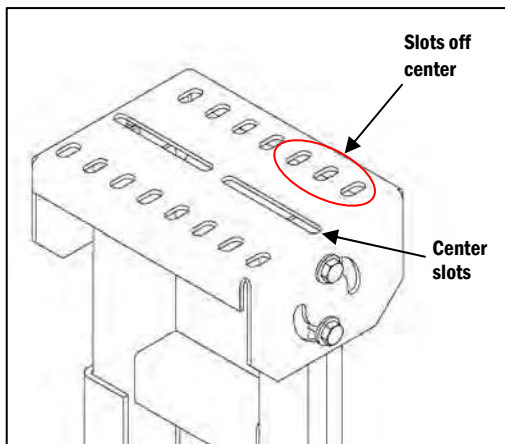

Figure 2
- If the Stand is only 2" wider than the conveyor, then the slots off of the center of the Stand's Top Plate will have to be used for mounting (Figure 2).